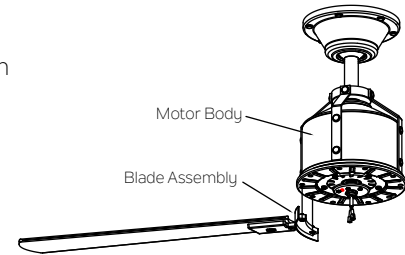

Fig. 18
Step 2. Fasten blade assembly to the holes located on the bottom of the flywheel. Tighten the two "pre- installed" motor screws in the blade arm. Repeat steps for the remaining blades assemblies.(Fig. 18)